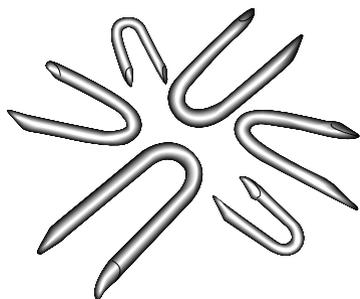

Figure 10-3:
- ✓ **Fencing staples:** Also called *poultry staples*, these U-shaped nails (see Figure 10-3) are specifically designed to fasten wire mesh products to wooden posts. They're easy to find (in the nail aisle of any hardware store), inexpensive to buy in bulk, and when they're installed properly, they're surprisingly sturdy and strong (as anyone who's tried to remove them from an old fence post can attest). But putting them in can be extremely tricky — and painful. The staples are small — much shorter than nails. Holding them with your fingertips while you hammer them home is often darn near futile. (In fact, the bandage manufacturers should partner up with the poultry staple folks and sell combo packs.)